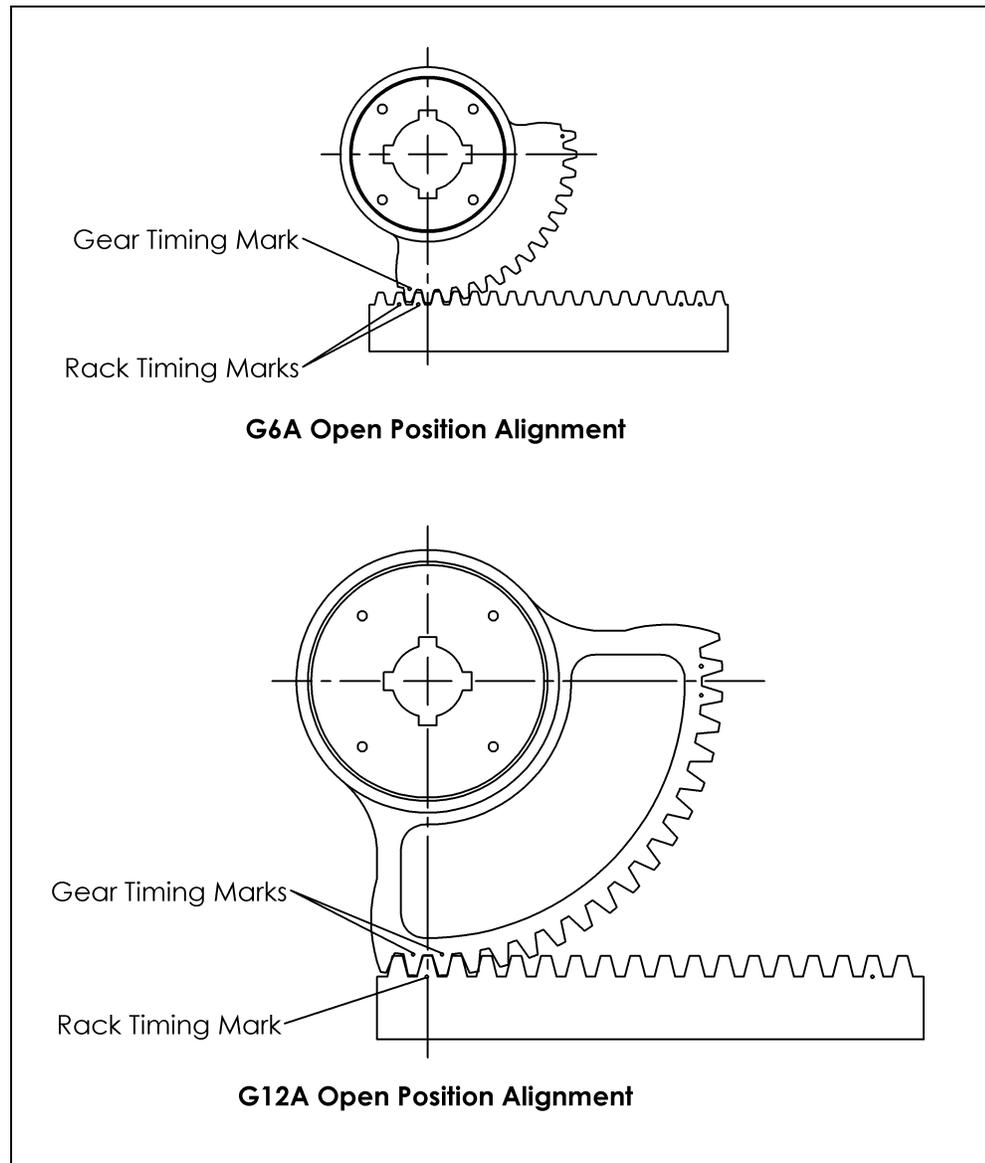

Figure 8 – Gear and Rack Alignment
6. Apply a liberal amount of lubricant to the teeth and journals of the gear (B3), then place the gear in the housing (B1) and carefully align the teeth with the rack as shown in Figure 8.